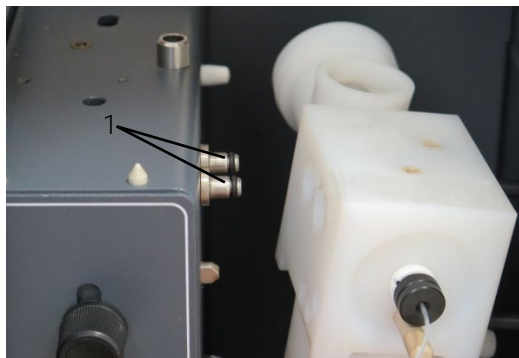

Figure 5. Spray chamber removed from gas inlet where:
- Two o-rings that seal the gas inlets to the spray chamber (see Figure 5)